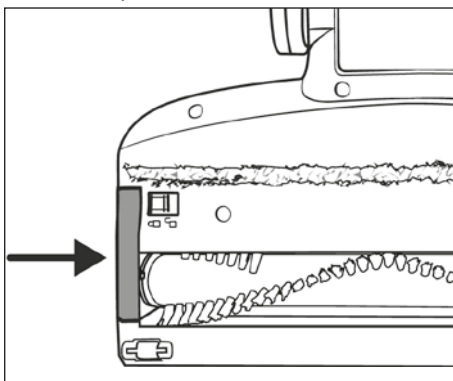

Fig. 29
- 6) Put the rotary brush holder 20 back into the floor brush 22. Push it down until it audibly clicks into the floor brush 22 (see Fig. 29).